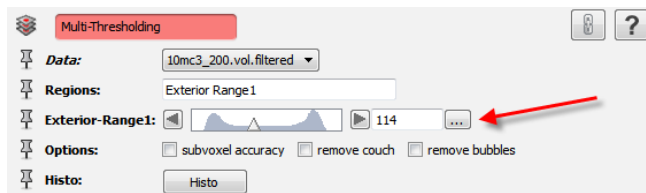

Figure 12.11: Modified parameter of the *Segment > Multi-Thresholding* module is highlighted by a red arrow.
- The default option should be the same as in Figure 12.11. The most important parameter to verify is the value of the *Exterior-Range1* slider, which must be set to 114.